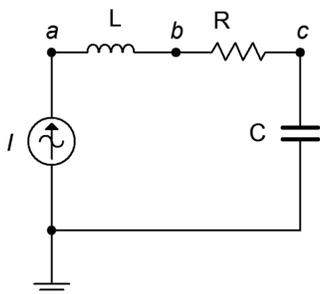

Figure 2.29
47. For the circuit of Figure 2.29, determine the voltages across each component. The source is a 2 mA RMS sine at 1 kHz,  $R = 1.2 \text{ k}\Omega$ ,  $C = 750 \text{ nF}$  and  $L = 6.8 \text{ mH}$ .